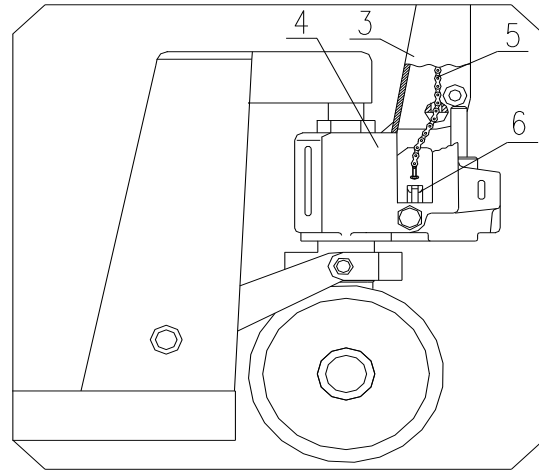

Figure 2
Position Axle Pin (2) so the eyelet hole is vertical, then insert roller chain (5) of handle through the eyelet hole (see Figure 2).
Attach screw and nut to the end of the roller chain (5) into the slot of Lever Pad (6). (See Figure 2 and Figure 5).